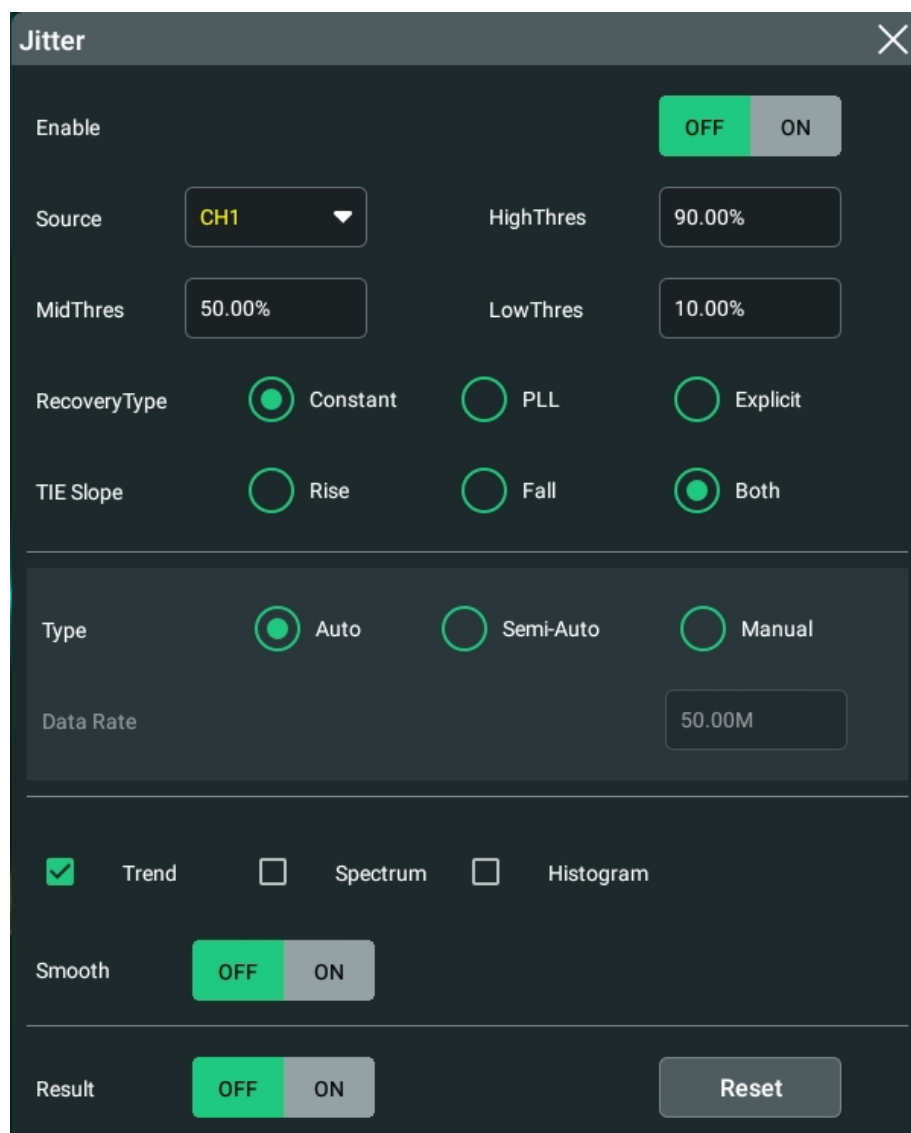

Figure 13.1 Jitter Setting Menu
- Click or tap **Setting**, then the jitter diagram menu is displayed, as shown in *Figure 13.1*.